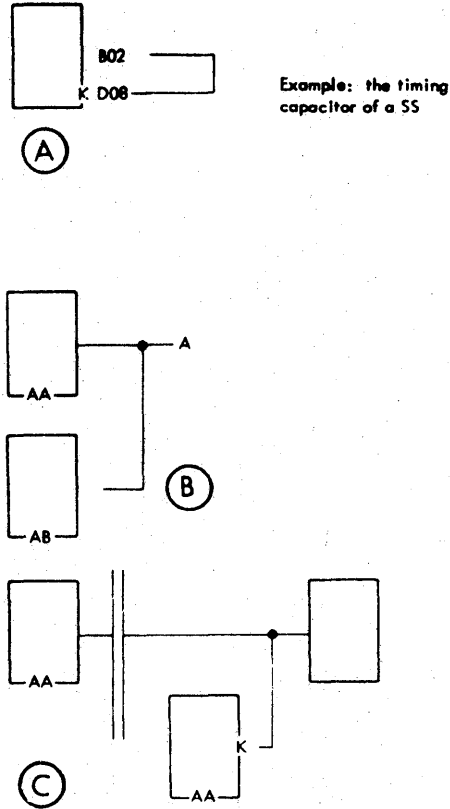

Figure 42. Non-Logical Output Connections
K in the Side: Non-logical outputs of different blocks are not tied together by DOT blocks. Instead, a K (Figure 42, Insert A) is put in the edge of the block in line with each (except one) of the outputs connected together. The one exception is the output used to determine the net number.
1. All the outputs tied together appear on the same page (Figure 42, Insert B). The net
2. All of the outputs tied together are not on the same page (Figure 42, Insert C). In a situation of this kind the outputs tied together on one page show an output to the right side of that page. The outputs in the same net on other pages return to the left of their respective pages and are referenced to the first page in the normal manner. The net number includes the line origin of one of the commoned outputs of the first page. In the edge of all the other blocks having outputs in the same net, a K appears in line with each commoned output.